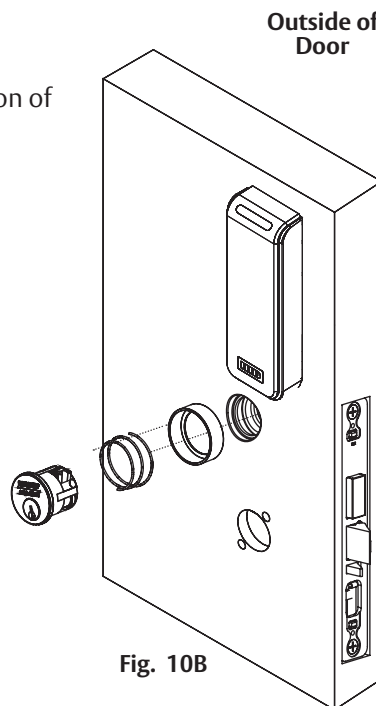

Fig. 10B
- Withdraw the key about 25% out of the cylinder before inserting into the escutcheon (Fig. 10B).